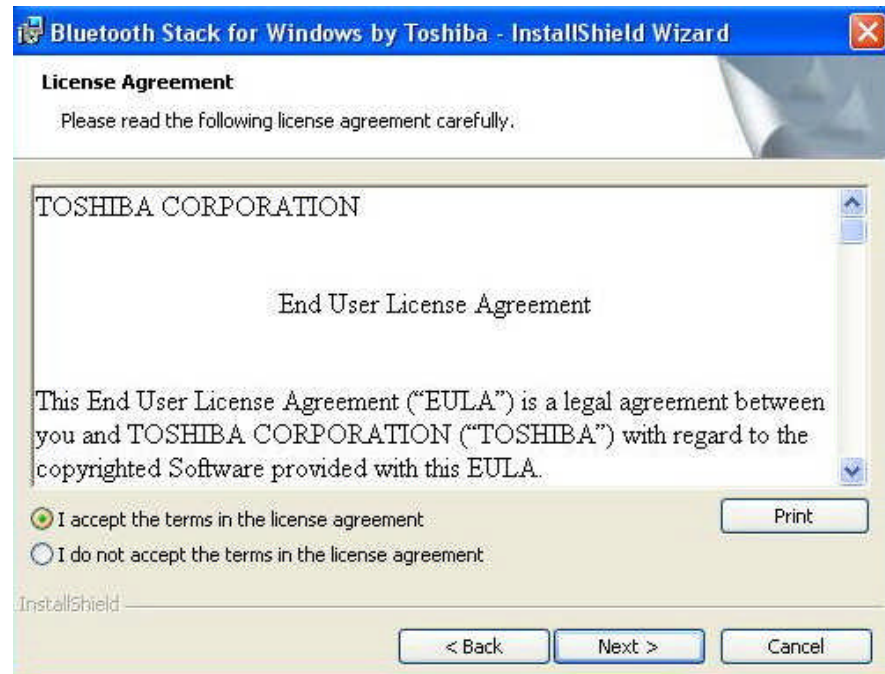

Figure 2.2: License Agreement
- d. Read the License and click the “I accept the terms in the license agreement” radio button. Then click the Next button. (Figure 2.2)